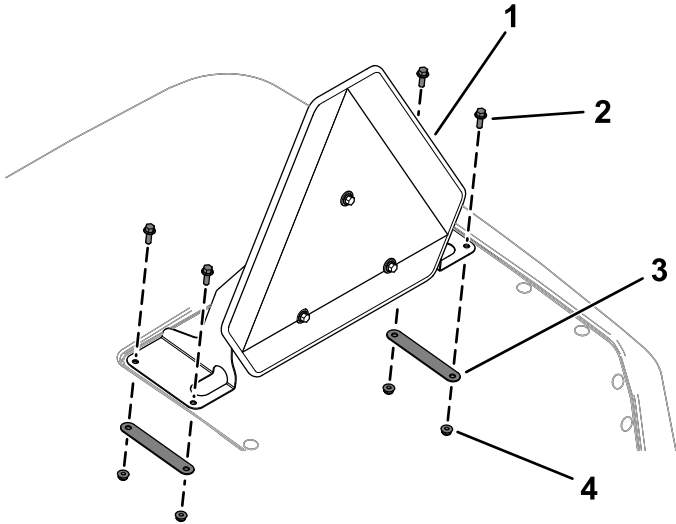

Figure 30
9. Secure the assembled slow-moving vehicle sign to the hood using 4 flange-head bolts (1/4 x 3/4 inch), 2 back mounts, and 4 locknuts (1/4 inch) as shown in Figure 30.